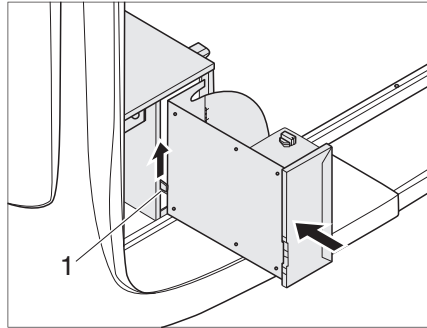

Fig. 79 Slide in the pull-out gas cooker
- ▶ Move the latch (Fig. 79,1) upwards and push in the pull-out gas cooker until the latch engages.